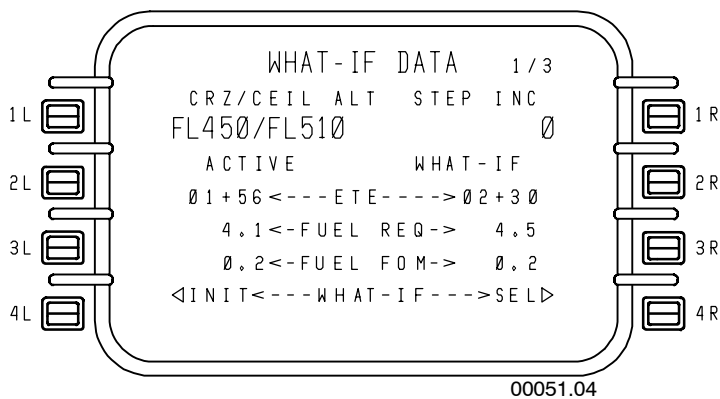

Figure 5-41
- **WHAT-IF DATA 1/3** - Figure 5-41 displays the cruise and ceiling altitude and step increment for the WHAT-IF conditions. The next three lines are a comparison between the active and the WHAT-IF performance predictions.